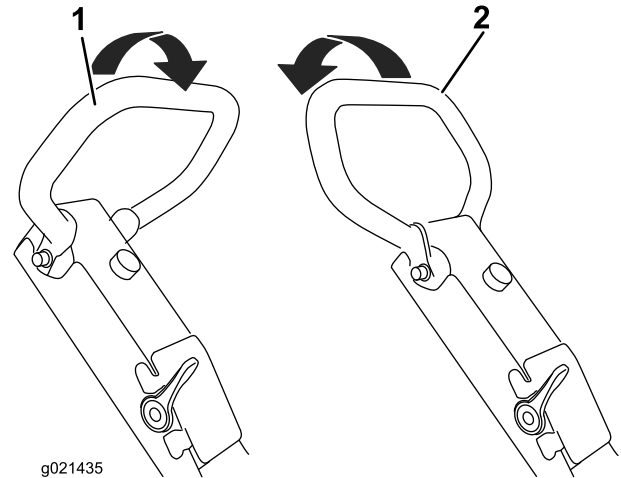

Figure 15
- Move the travel-control handle forward to drive the machine forward (Figure 15).
- Pull the travel travel-control handle backward to drive the machine backward (Figure 15).